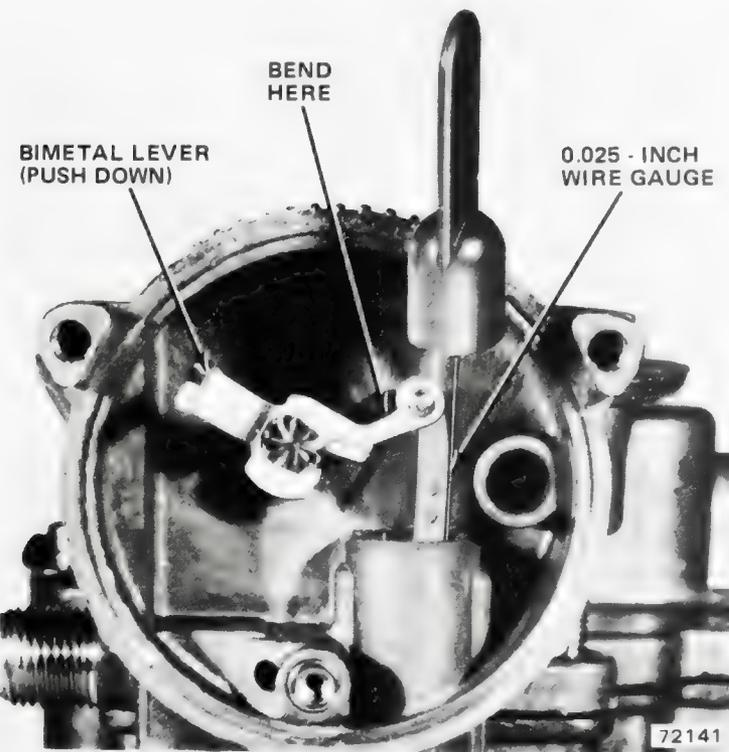

Fig. 1J-54 Initial Choke Valve Clearance Adjustment
- (1) Bend 0.025-inch wire gauge at 90° angle approximately 1/8 inch from end.
- (2) Remove coil housing, gasket and baffle plate.
- (3) Partially open throttle and close choke valve to position choke piston at top of its bore.
- (4) Holding choke valve fully closed, release throttle and insert wire gauge into piston slot, against outboard side (right side of choke shaft) of piston bore. Push piston downward with gauge until bent end of gauge enters slot in piston bore. With gauge in place, push on choke shaft bimetal lever in counterclockwise direction to move piston upward, locking gauge in place (fig. 1J-54).